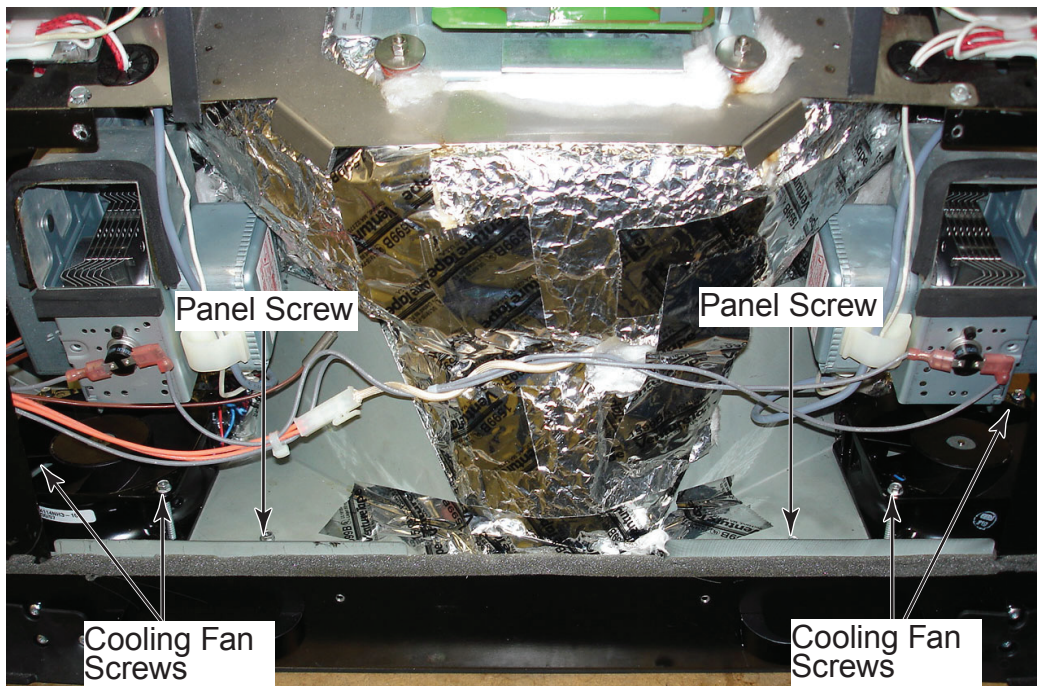

Figure 5
- a) Remove screws from panels on back of oven - see figure 5.